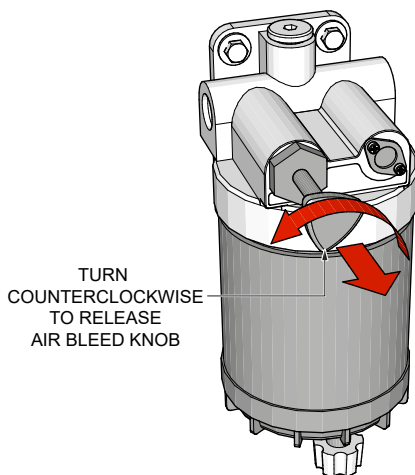

Figure 45. Air Bleed Knob (Released)
2. Turn the air bleed knob counterclockwise (Figure 45). This will release the knob so that priming (purging of air) can begin.